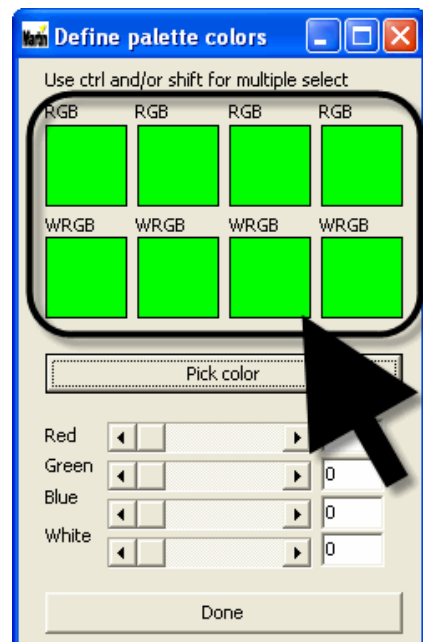

Figure 8: Defining palette colors
2. See Figure 8. The **Define palette colors** dialog box appears. The eight palette boxes (arrowed) correspond to the eight possible luminaire groups. Groups A - D are displayed from left to right on the top row. Groups E - H are displayed from left to right on the second row.